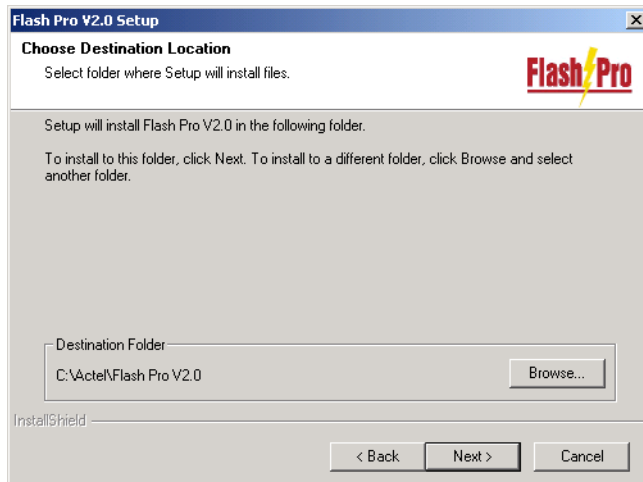

Figure 1-3. Flash Pro Destination
4. Click *Next* to install Flash Pro to the destination folder, as shown in Figure 1-3. To install to a different folder, click *Browse* and select another folder. Flash Pro installs to the directory selected.